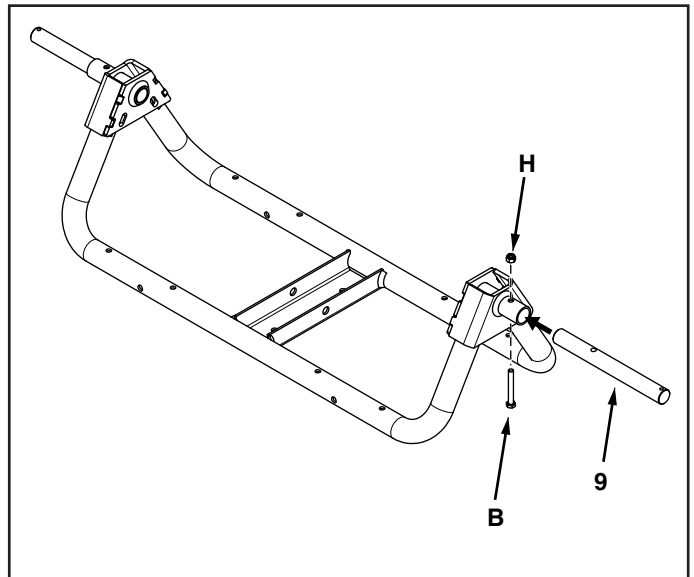

FIGURE 6
STEP 6: (SEE FIGURE 6)
1. Attach the axle (9) to the wheel support using a $\frac{5}{16}$ " x $1\text{-}\frac{3}{4}$ " hex bolt (B) and a $\frac{5}{16}$ " nylock nut (H). Repeat this step to attach the other axle to the opposite side.